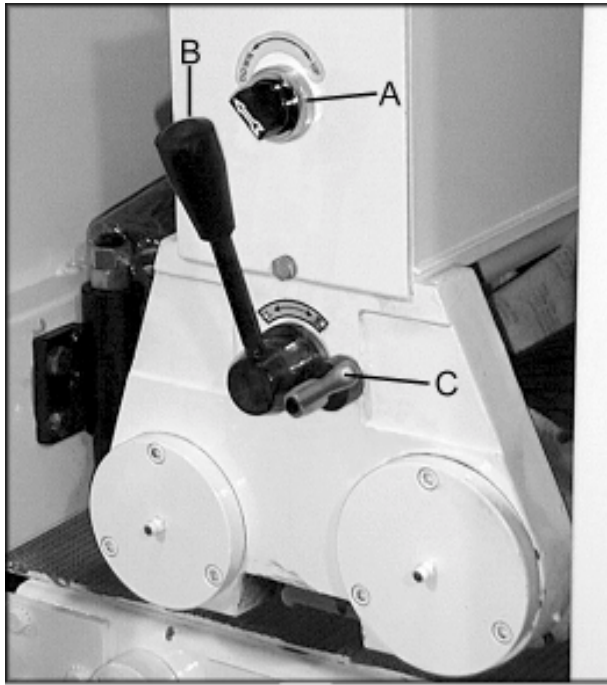

FIGURE 8
3. Engage the upper roller by turning the knob (A), Figure 8, to the upper position.
4. Adjust the platen with the lever (B) and lock it (C) in the desired position. The platen or main rubber roller can act as the sanding contact, as well as a combination of both.